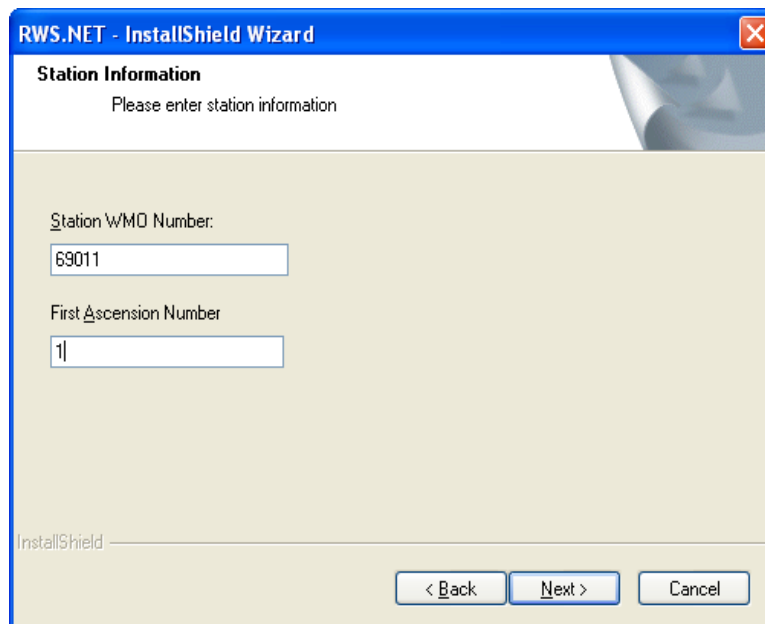

Figure B-9: Station Information Window
3. Click **Next** to display the *Station Information* window (Figure B-9).